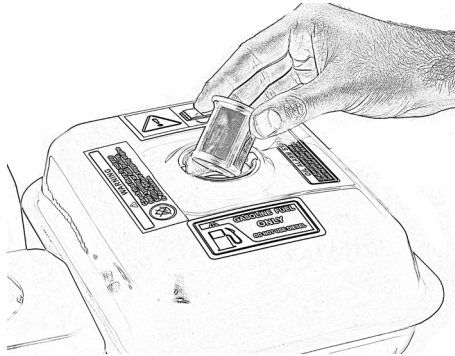

Figure 23
- Open the tank cap and remove the tank strainer, Fig. 23.